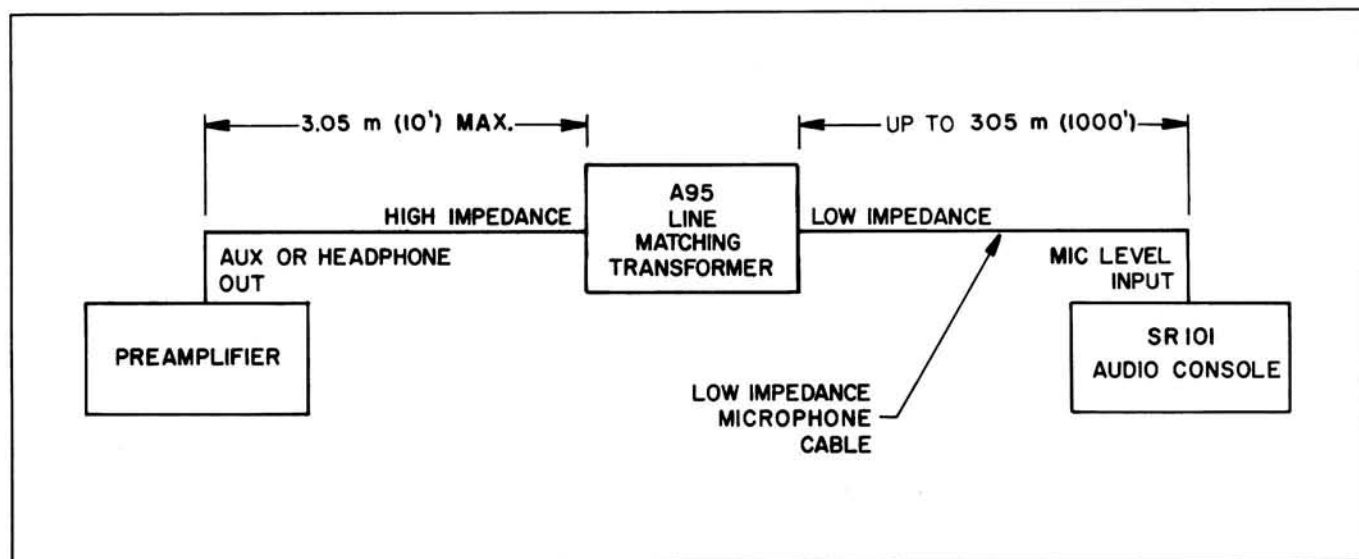

FIGURE 7. PREAMPLIFIER-CONSOLE CONNECTIONS
To use a preamplifier auxiliary output with the Console (instrument or tape recorder preamplifier, or hi-fi amplifier tape monitor output jack, or headphone jack; *never* speaker jacks), connect the preamplifier auxiliary output through up to 3.05m (10 ft.) of cable to the high-impedance side of a line matching transformer (Shure A95 Series) as shown in Figure 7, Page 11. Connect the low-impedance side of the transformer through a low-impedance microphone cable [up to 305m (1000 ft.)] to a Console MICROPHONE LEVEL Input Jack (33). Adjust Console equalization controls for optimum sound. Adjust the Console INPUT ATTEN Control (14) for the channel in use to provide the desired sound level with the channel Volume Control (1) set at about mid-scale.